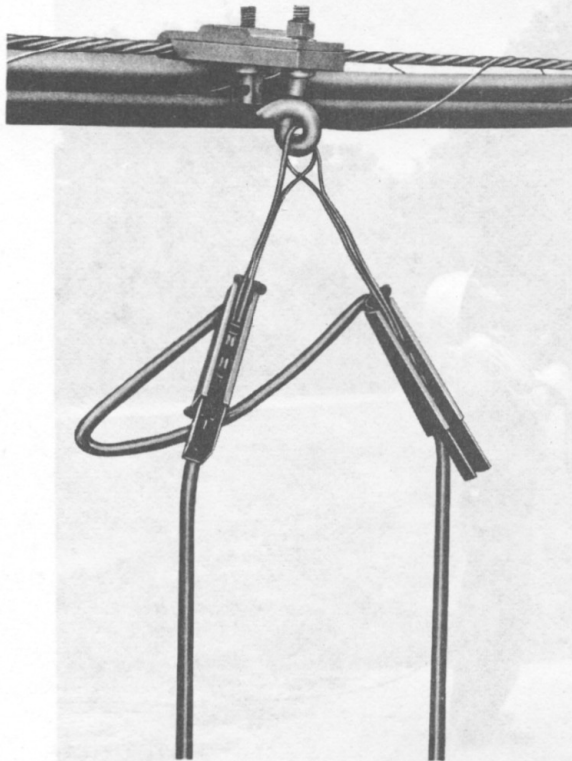

Fig. 6—F Span Clamp Installed on Strand
(8) Disengage the B Clamp Wrench from the span clamp assembly by providing a sharp reverse twisting motion on the tree pruner handle to unseat the wrench. Once loosened, unscrew the wrench completely from the clamp screw, leaving the span clamp installed on the strand as illustrated in Fig. 6.